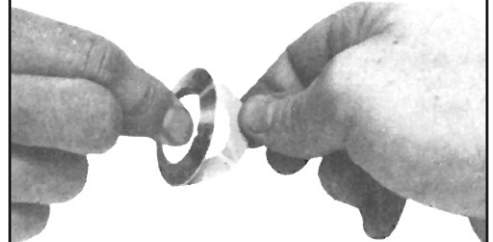

FIGURE 5
6. Carefully peel off the backing from the adhesive that is on the back of the SLIP-FIT overlay. Try not to touch the adhesive. See Fig. 5.